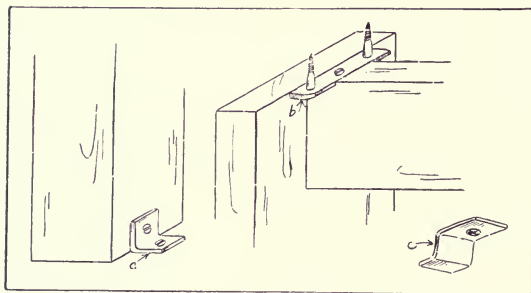

Fig. 232. a. Corner-iron. b. Straight plate. c. Panel-iron.
*Plates*, Fig. 232, include corner-irons, straight plates and panel-irons. These are made of either iron or brass and are used in fastening legs to the floor, in stiffening joints, affixing tops, etc.